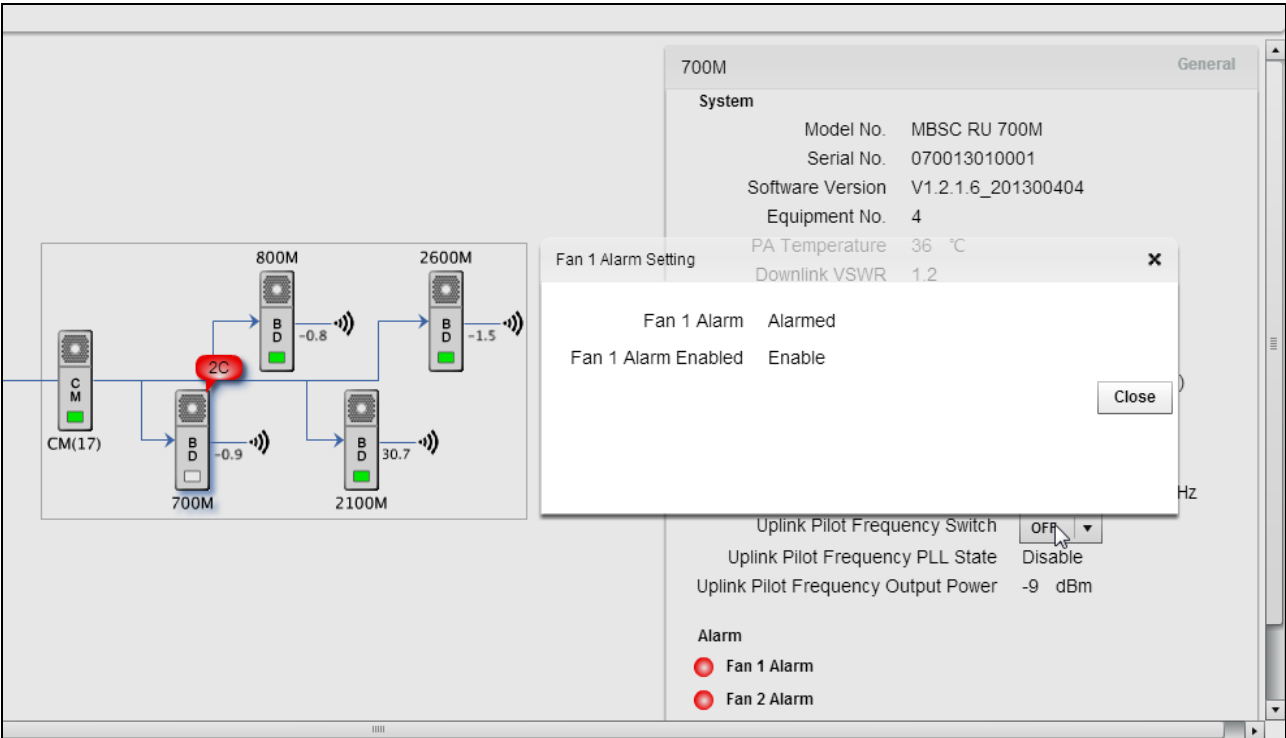

Figure 51 - Remote Node Alarm Status
1. Click on the RU in the topology diagram and the component window will pop up on the right as shown in Figure 51 - RU Attenuator.